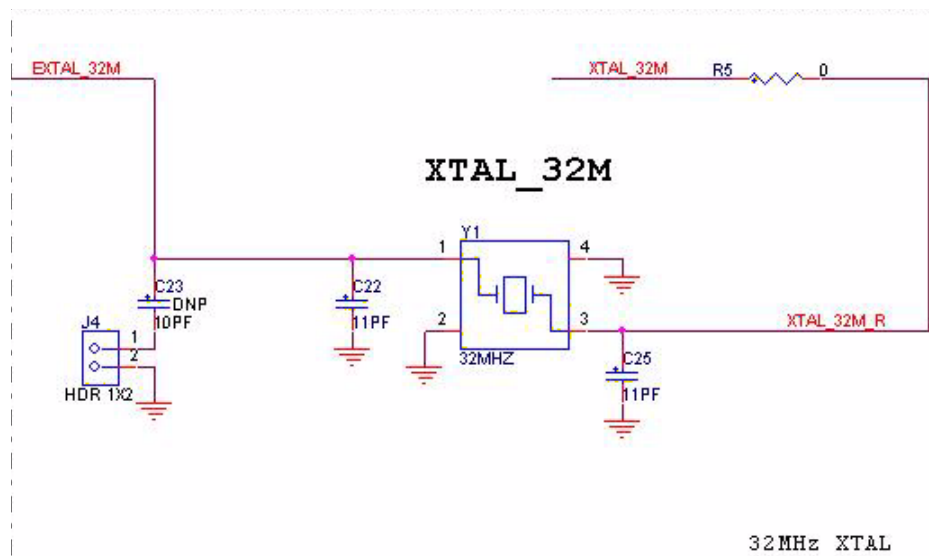

Figure 3-5. 12311-MRB 32 MHz Reference Oscillator Circuit
- 32 MHz Reference Oscillator - Figure 3-5 shows the external 32 MHz external crystal Y1. This mounted crystal must meet the MC12311 specifications.